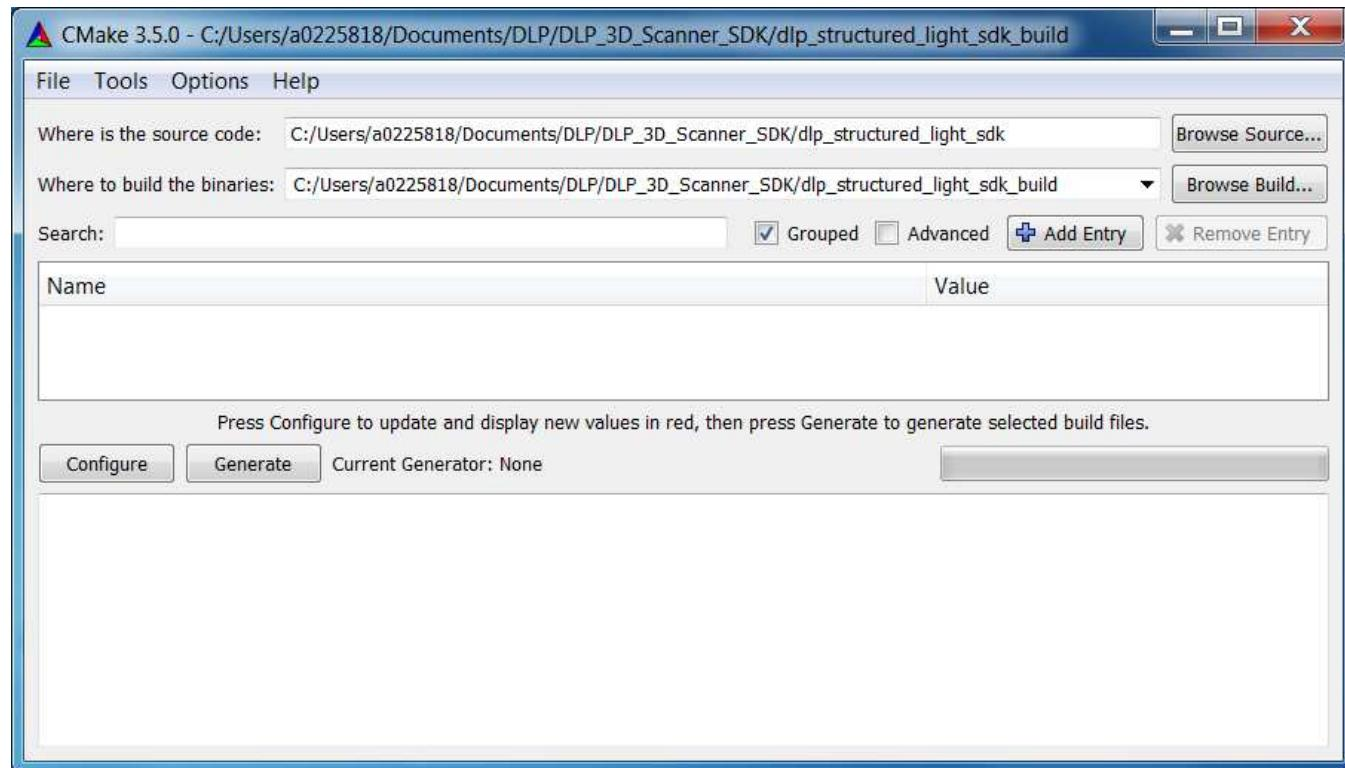

**Figure 44. DLP ALC SDK Installer Finished**
8. The installer will finish and look like Figure 44. Click "Finish" to exit the installer.